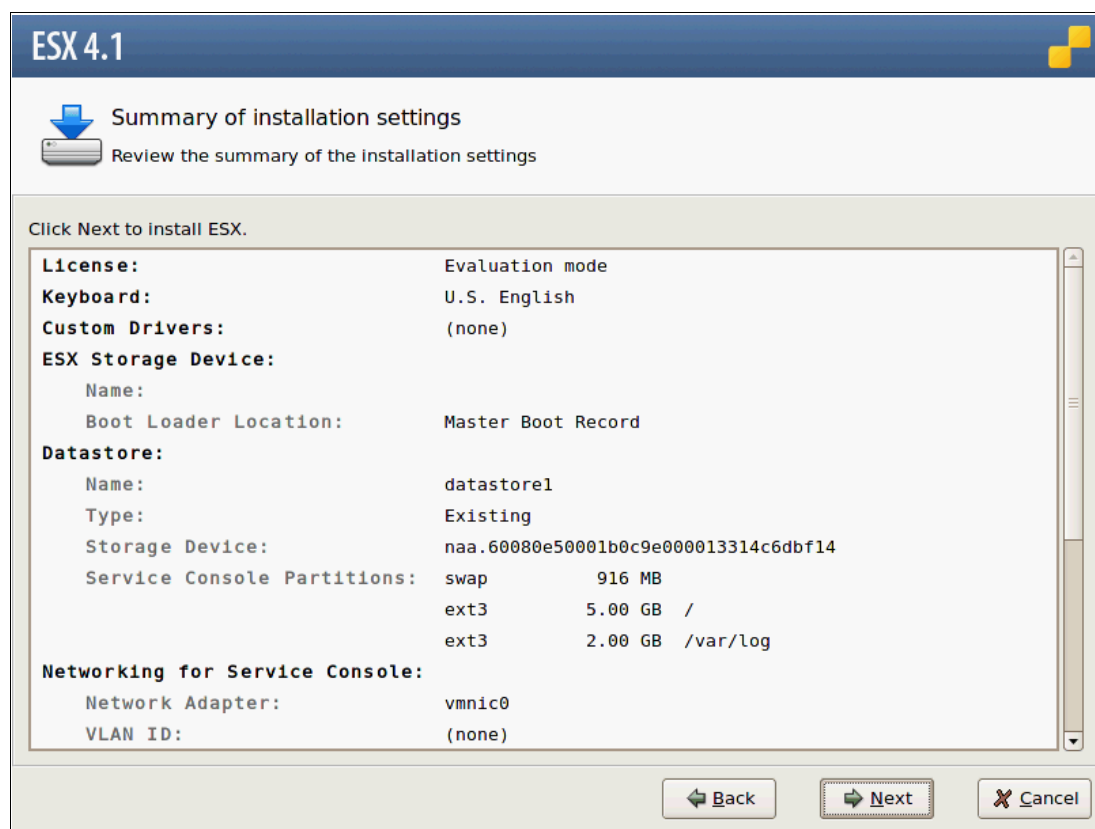

Figure 22-30 ESX Summary Installation window
18. In the Summary panel (Figure 22-30), review the configuration. Click **Next**.